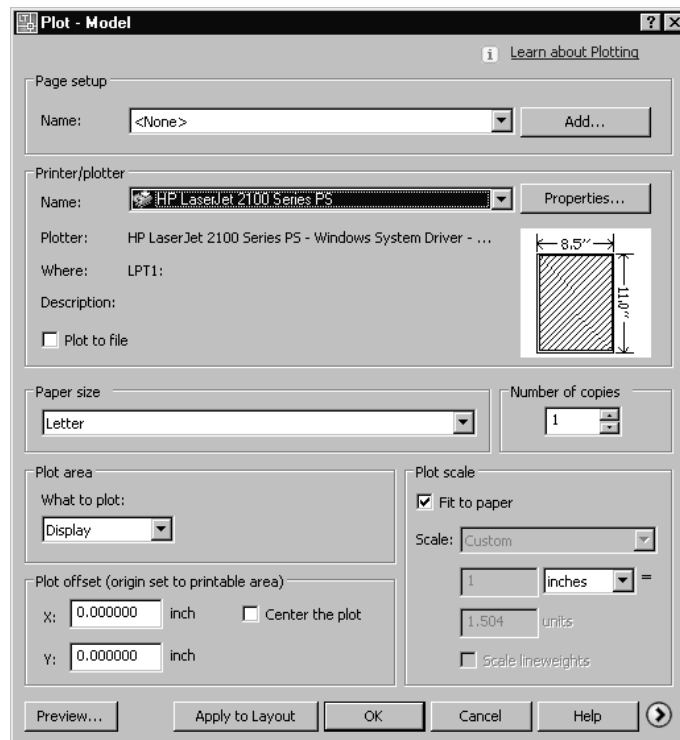

Figure 2-55 The **Plot** dialog box with the default printer
2. The name of the default system printer is displayed in the **Name** drop-down list in the **Printer/plotter** area. In this example, it is **HP Laser jet 2100 Series PS**, see Figure 2-55. You can use any other printer by selecting the name of the device from the **Name** drop-down list.